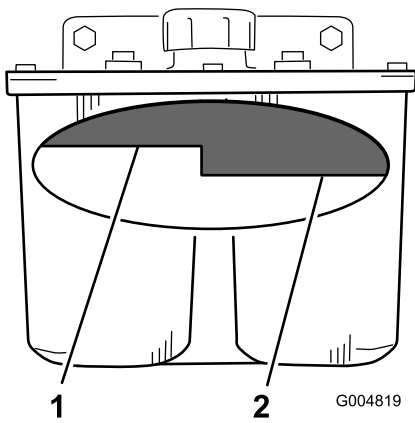

Figure 68
- Clean the area around filler neck of hydraulic tank (Figure 68).
- Remove the cap from the filler neck. Look inside to check if there is fluid in the reservoir (Figure 68).
Note: The fluid level should be to the top of the hot level of the baffle, when the fluid is hot (Figure 68).